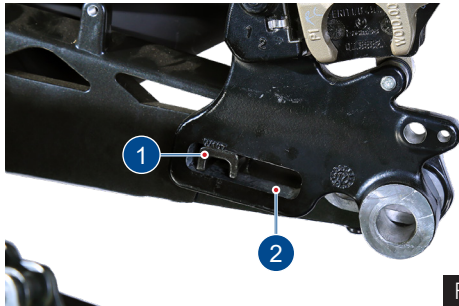

Fig. 68
- Place the brake-caliper (1) on the guide (2) of the swing arm as shown (ref. Fig. 68)